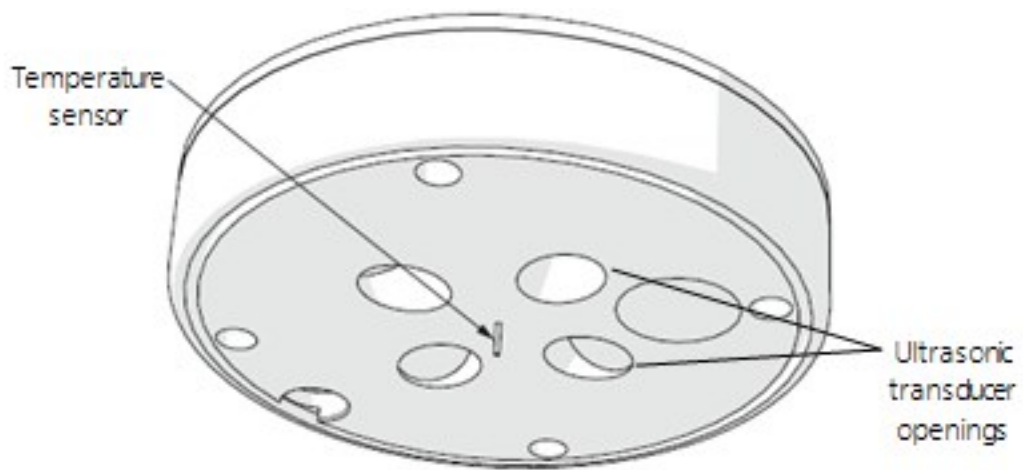

Figure 8-1. Temperature sensor and ultrasonic transducer openings
1. Remove cobwebs, leaves, bird droppings, wasp nests, or other debris from the temperature sensor (Figure 8-1 [p. 21]), ultrasonic transducer openings (Figure 8-1 [p. 21]), rain gauge funnel (Figure 8-2 [p. 21]), and plate (Figure 8-3 [p. 22]).
Gently clean the sonic transducers and do not allow water to enter the ultrasonic sensors (Figure 8-1 [p. 21]). Water may corrode the metal parts inside the sensors and ruin them.